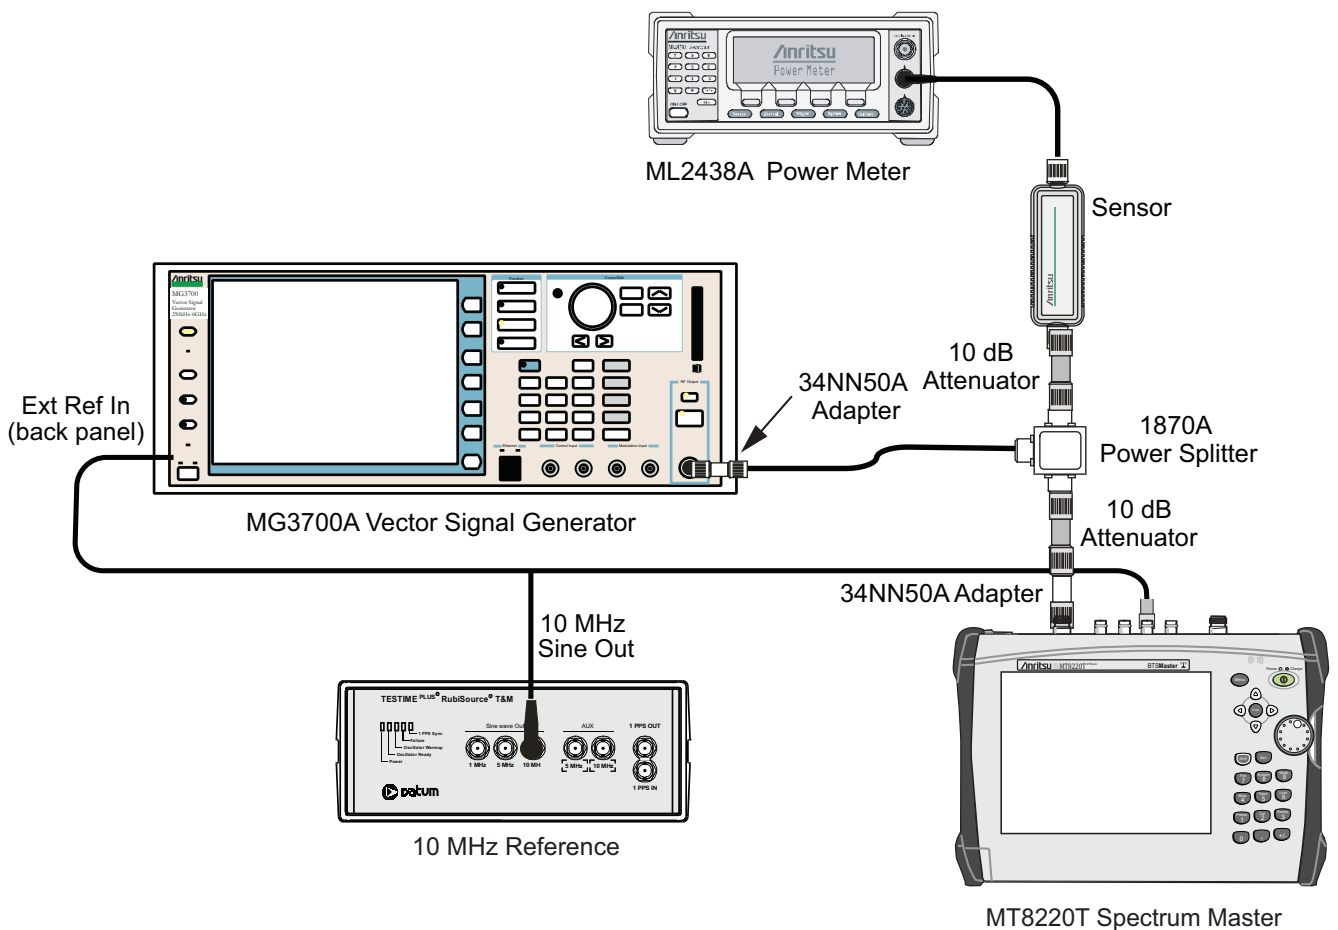

Figure 6-4. WCDMA Occupied Bandwidth, Test Setup
3. Connect the MG3700A, splitter, attenuator, power meter, and sensor as shown in Figure 6-4.
4. Press the **On/Off** key to turn on the MT8220T and wait until the measurement display appears. Then press the **Shift** key then press the **Mode** (9) key to activate the mode selection menu.
6. Press the **Shift** key, the **Preset** (1) key, and then the Preset submenu key.
4. Press the **On/Off** key to turn on the MT8220T and wait until the measurement display appears. Then press the **Shift** key, and then press the **Mode** (9) key to activate the mode selection menu.
4. Press the **On/Off** key to turn on the MT8220T, and wait until the measurement display appears. Then press the **Shift** key, and then press the **Mode** (9) key to activate the mode selection menu.